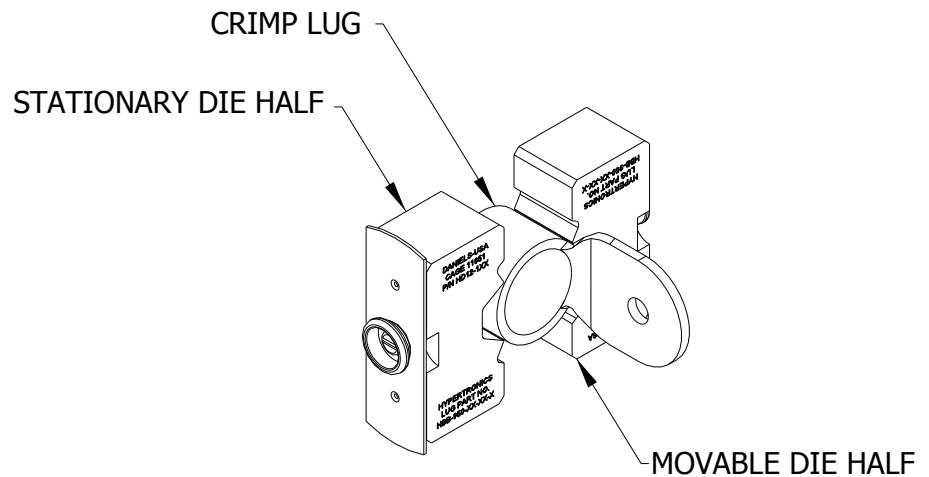

Figure 3
3. Place a lug in the movable die half making sure the lug is positioned as shown in Figure 3. Repeatedly cycle the tool handles until the movable die advances to lightly clamp the lug, but not deform it.